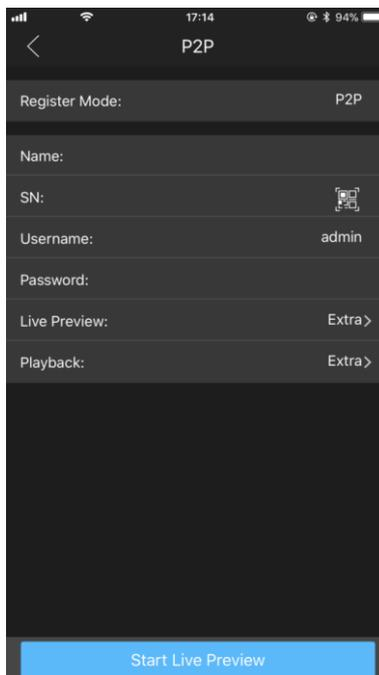

Figure 3-11
3. Select device connection type, and then follow the prompts to connect to the device. System displays device SN. See Figure 3-11.